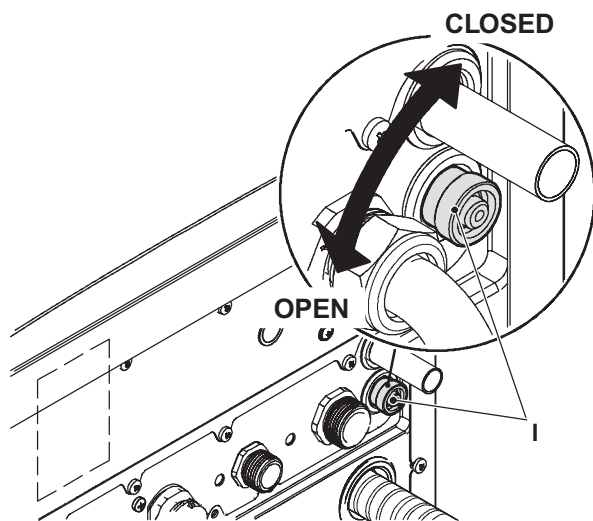

Figure 2.11
- 3 Open the drain tap I (Figure 2.11) until the boiler is completely emptied.